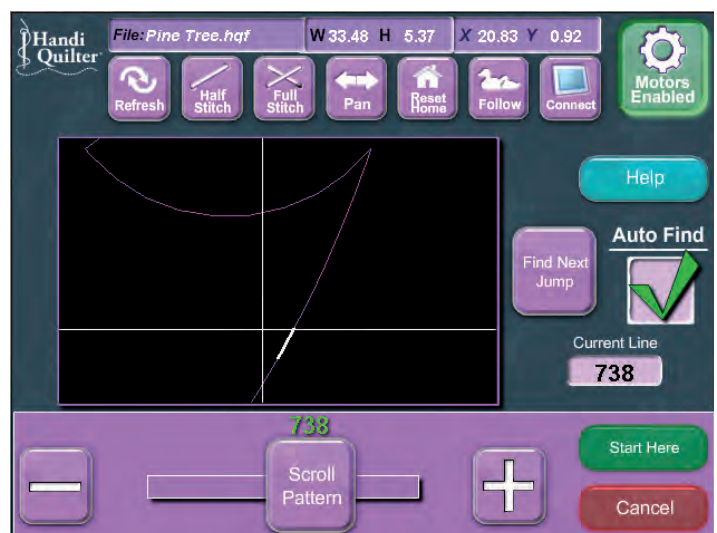

Figure 48
3. If the “Auto Find” option box is selected, the user just has to move the quilting machine back to the desired resume point on the quilt (i.e., where the thread broke). The HQ Pro-Stitcher will locate the closest point on the pattern to the current position of the quilting machine (Figure 48). It may be necessary to toggle the “Enable Motors” button prior to moving the machine. It is also helpful to toggle back to lock the machine in position once the desired location is reached.
4. The final way to set a new starting position is to manually enter the line number in the “Current Line” box located under the “Auto Find” option (Figure 48). This can be useful if the user has a pattern that she wishes to repeatedly start from a point other than the actual start point. The user must first determine what that line number is by using one of the above methods and then take note of the “Current Line” value. Then the user can simply enter that number into the box using the pop-up number pad.